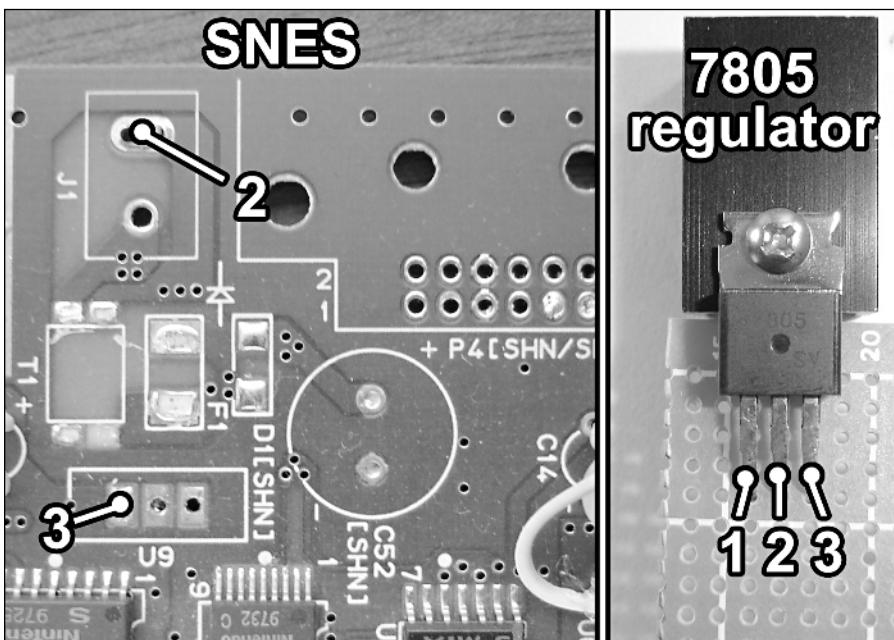

FIGURE 9-10: Hooking a new 7805 regulator and heat sink to the SNES.
2. Use a size-4 screw to attach a 7805 regulator to the heat sink. Insert the regulator in a piece of PC board as shown in Figure 9-10. You can mount the regulator however you like, as long as it has a heat sink and the leads don't short out against anything else. The ground (middle) connection of the 7805 can touch the heat sink, however.
Figure 9-10 shows how the 7805 regulator should be connected to the SNES.
2. Connect the other end of the regulated power wire to spot 3 on the SNES board as indicated in Figure 9-10.